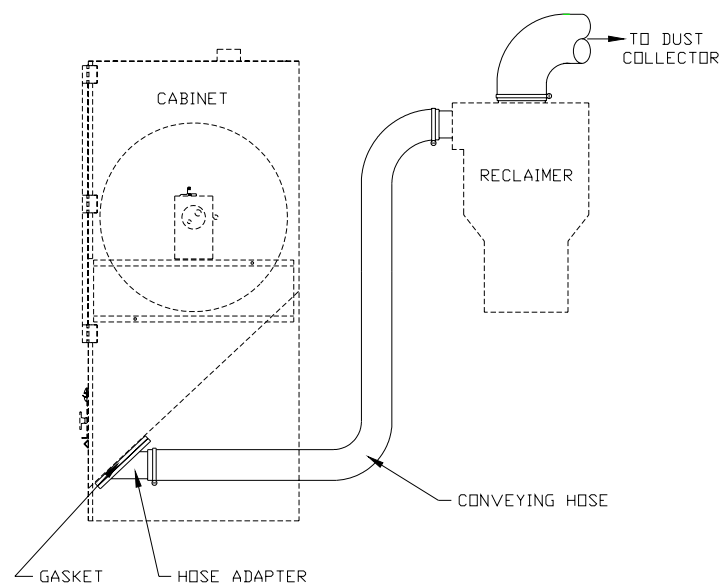

Figure 2 - Conveying Hose Installation
Step 3: Attach one end of the Conveying Hose to the Cabinet Hose Adapter. Attach the other end of the hose to the Reclaimer Inlet. See Figure 2. This connection must be airtight.